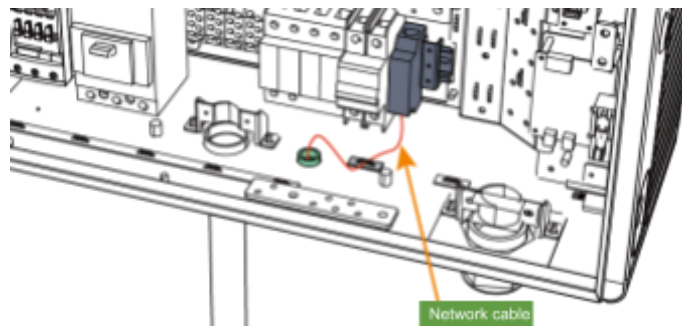

**FIG 19: CABLE INSTALLATION DIAGRAM**
**Step 10:** For wiring, thread the power cable into the corrugated conduit (1-1 / 4 inch), then introduce the cable into the charging box through the inlet gland at bottom of the charging box, and then fix the corrugated conduit on the inlet gland, refer to FIG. 19. Connect the ground wire to the ground copper bus, refer to FIG. 20. Then connect the three phases of L1, L2, L3 and the N line to the corresponding terminals from left to right. The phase sequence cannot be connected wrong, as shown in FIG. 21. After the completion of wiring, fix the cable with removed cable clamp via removed screws.